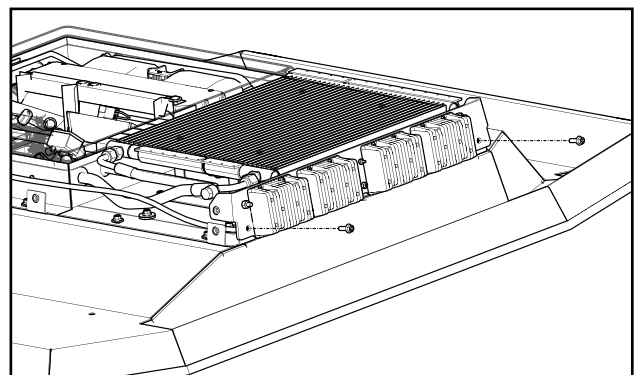

Fig. 3.5 (Install Converter Bracket)
- 3.5 Locate the converter bracket assembly and attach it to the air conditioner assembly as shown. Figure 3.5